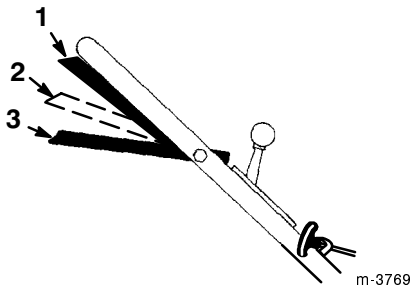

Figure 12
3. Squeeze the control bar against the handle to the *Run/Drive* position (Fig. 12).
Note: Do not shift speeds while you squeeze the control bar against the handle in the *Run/Drive* position; this can damage the transmission. Move the control bar to the *Run/Shift* position (Fig. 12) when you change the ground speed.